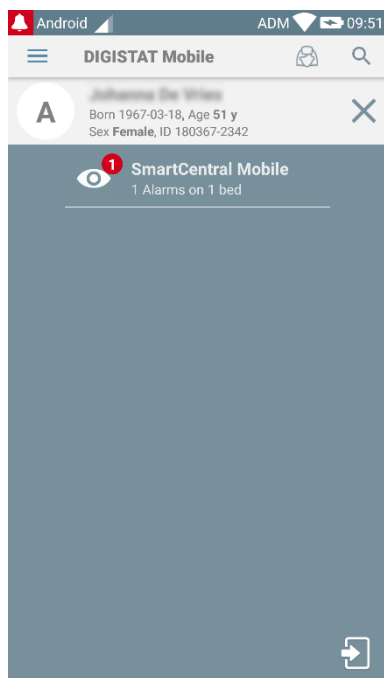

Fig 211
- In this situation, touch again the Login Widget to show the main page of the Mobile Application (Fig 211):